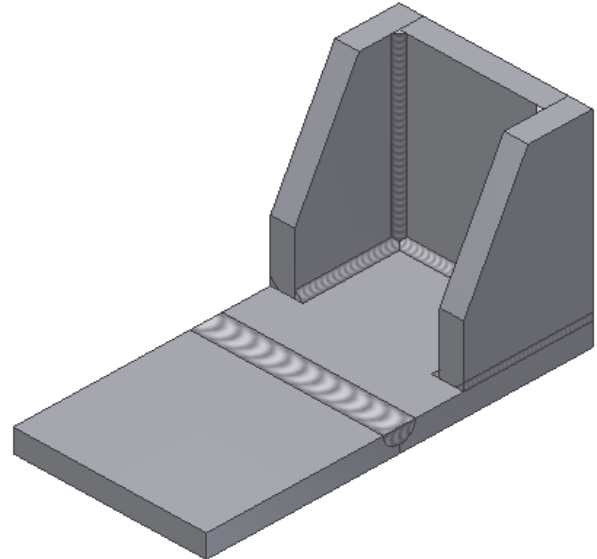

Figure Step 1
Step 1 Open the part Inventor Advanced Workalong 22-1.iam. (Figure Step 1)